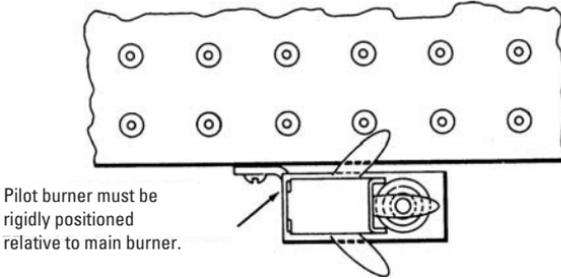

Figure 5-60 Rigidly affix pilot burner to main burner.
2. Rigidly affix the pilot burner to the main burner. Other mounting surfaces should not be used (see Figure 5-60).